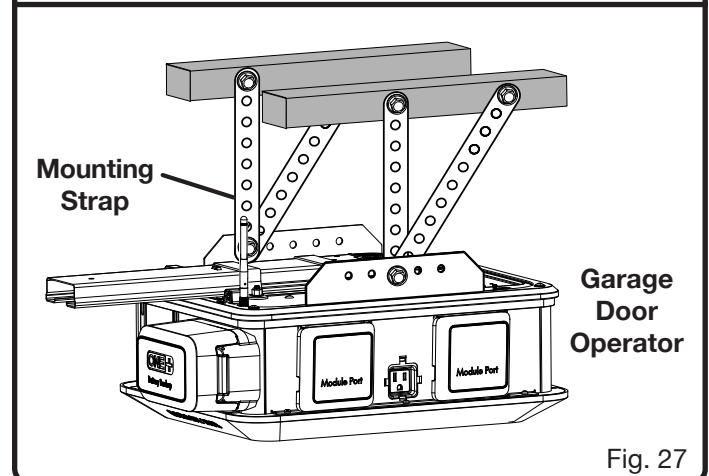

Fig. 27
- Connect straps to garage door opener and to the joists using bolts, lock washers, and nuts (see figure 27).